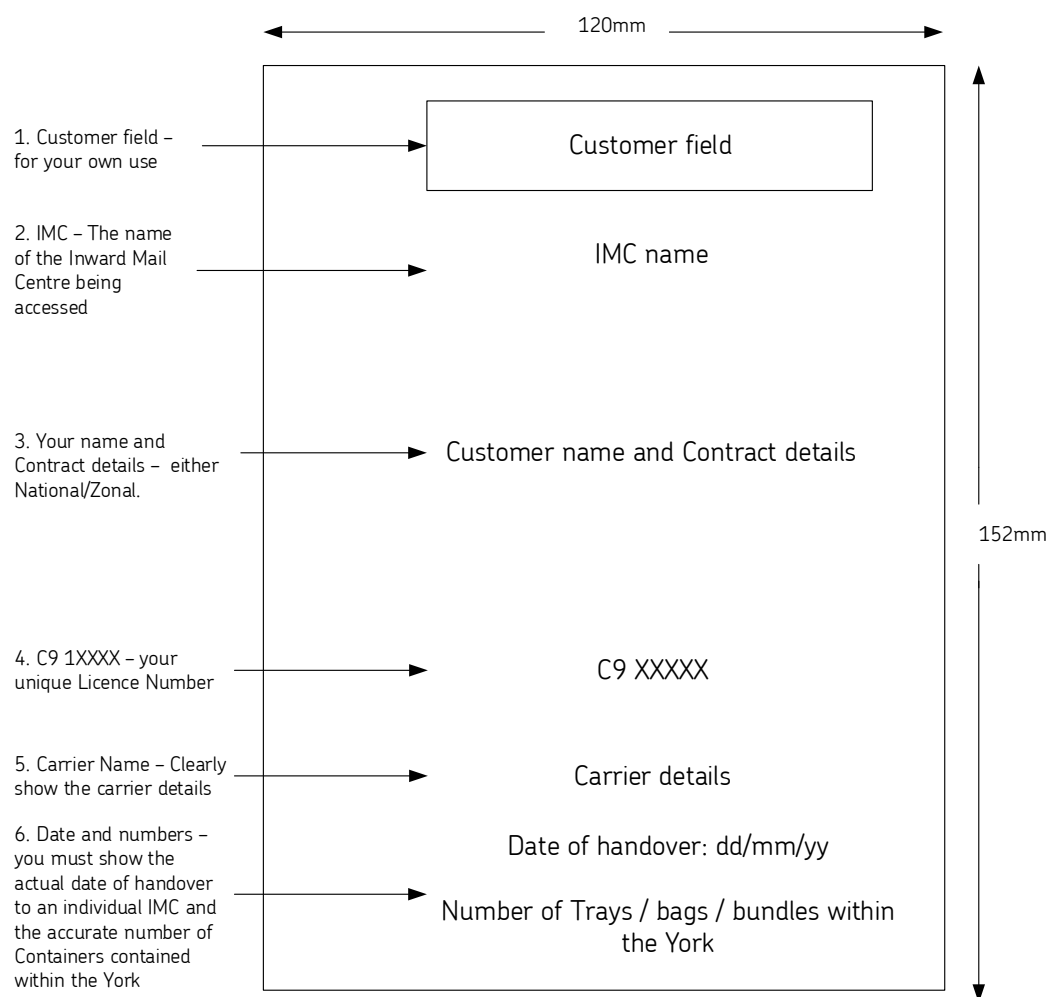

Figure 22: York card
- Figure 22 provides an example of a York card: